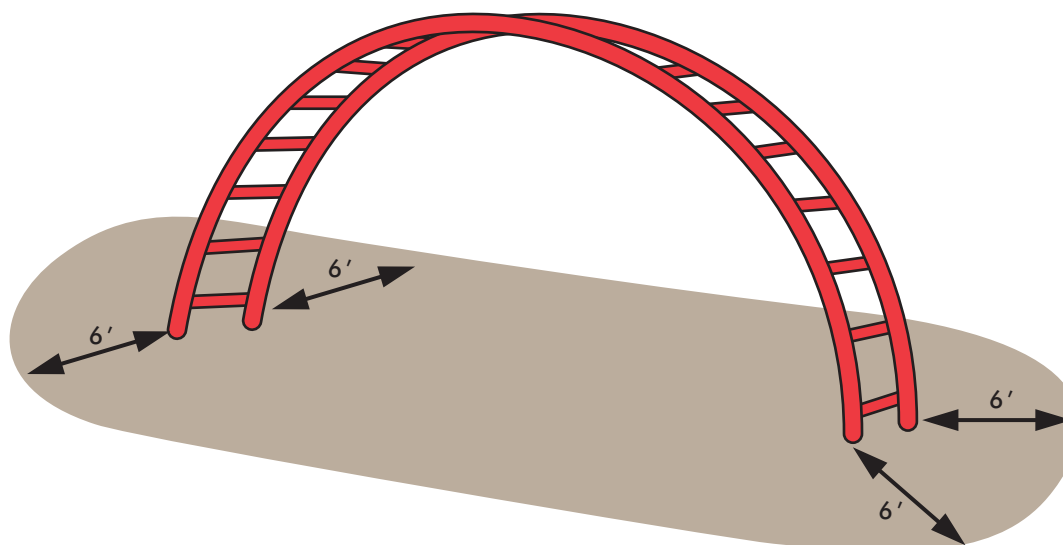

Figure 8. Use zone surrounding a freestanding arch climber
- The use zone should extend a minimum of 6 feet in all directions from the perimeter of the stand alone climber. See Figure 8.